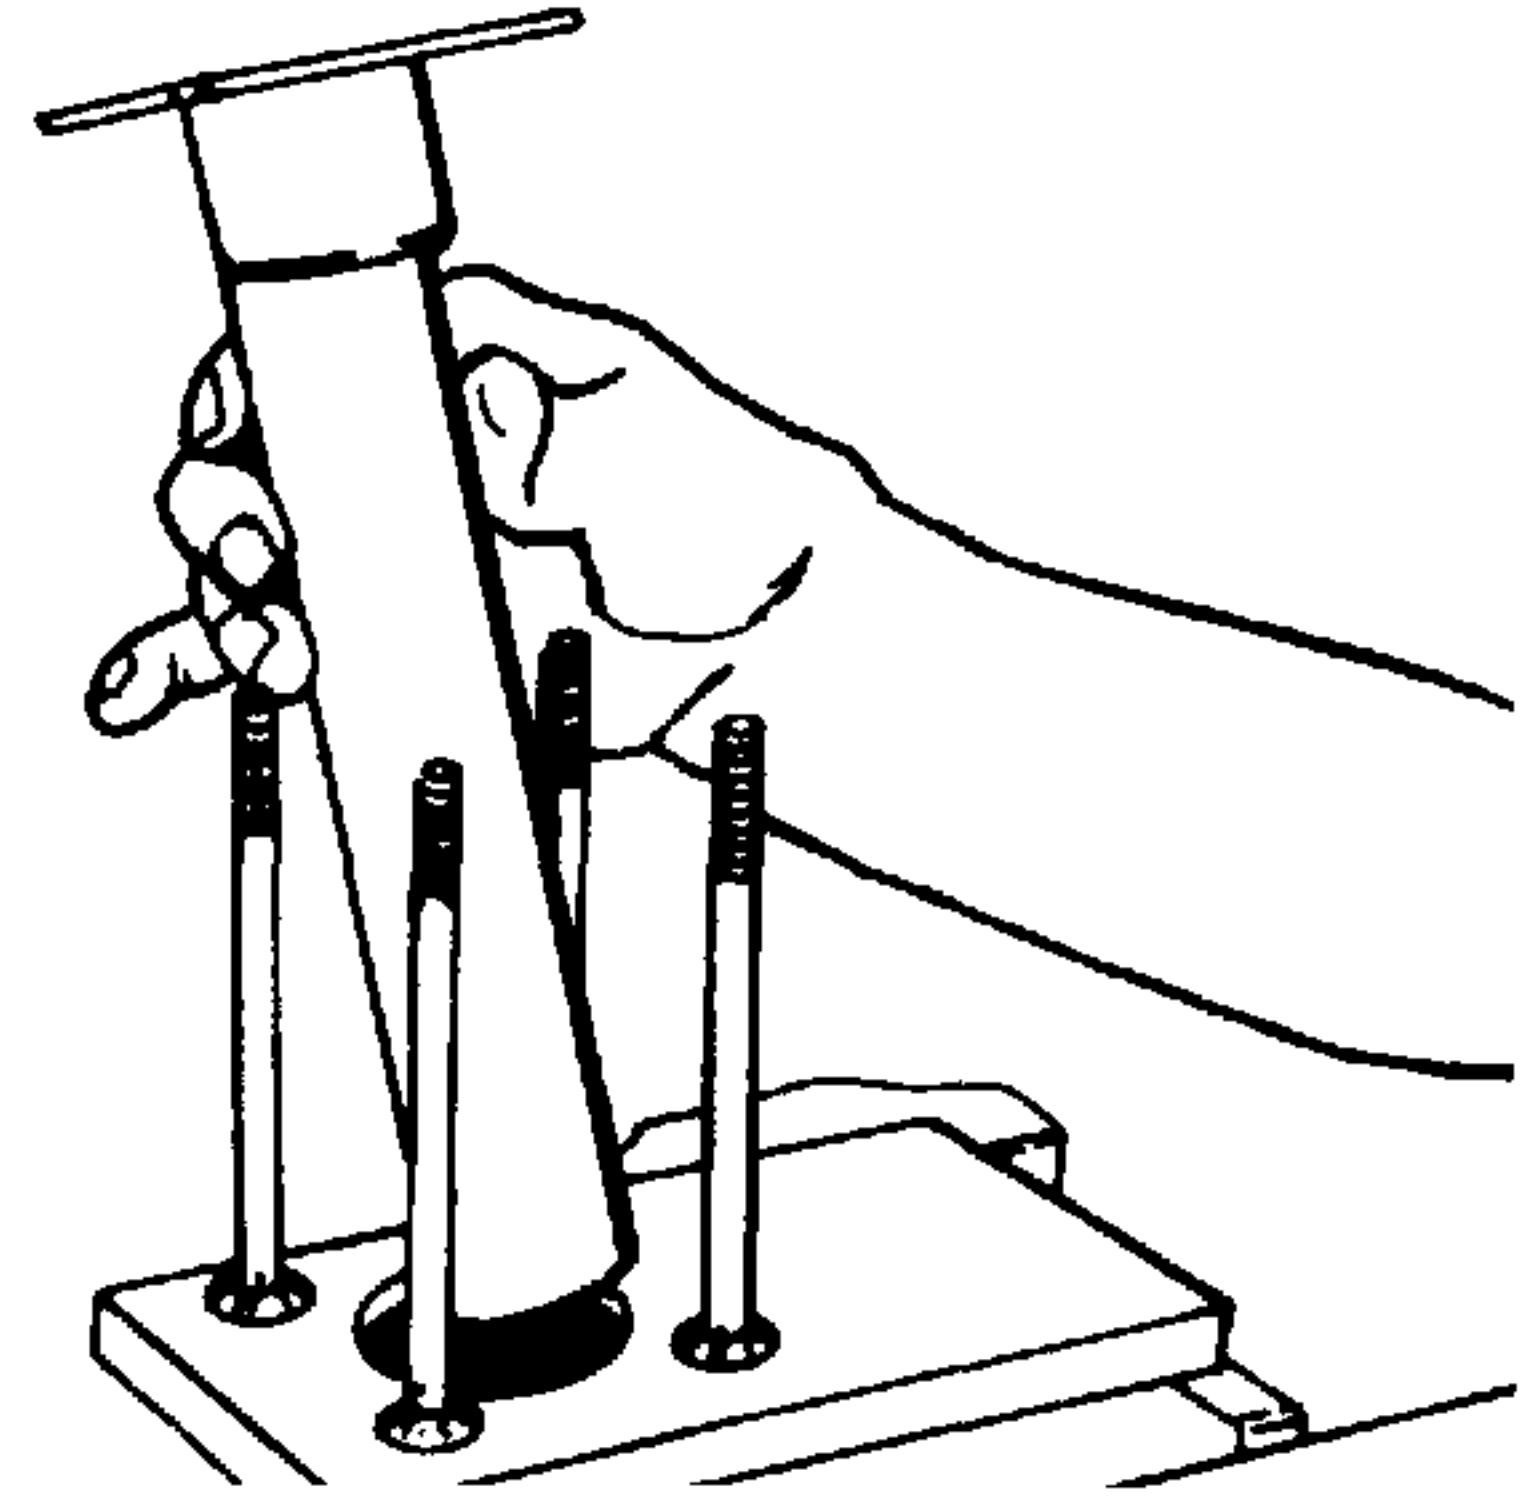

Figure 4-40. Removing Upper Cover and Tube Assembly.
47. Remove the upper cover and tube assembly (35, Figure 4-1) and lay the assembly on the bench. See Figure 4-40.